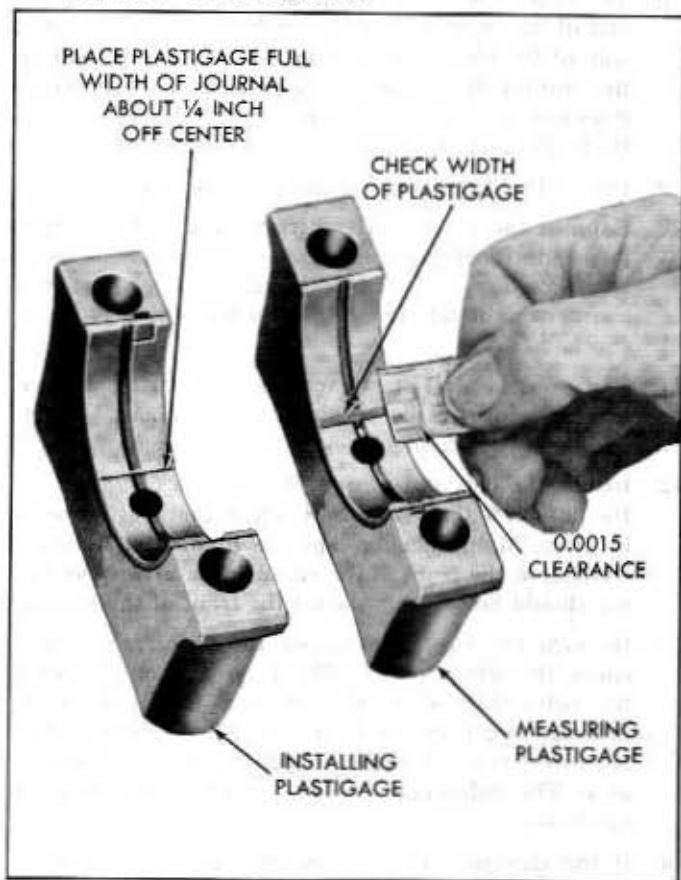

Fig. 6A-84—Installing and Measuring Plastigage—Engine Installed—(61CM-5616)
2. Remove the camshaft bearings. See figure 6A-29.
4. Clean the camshaft rear bearing bore plug recess thoroughly. Install a new plug as illustrated in figure 6A-31 under "Engine Assembly" in this section.